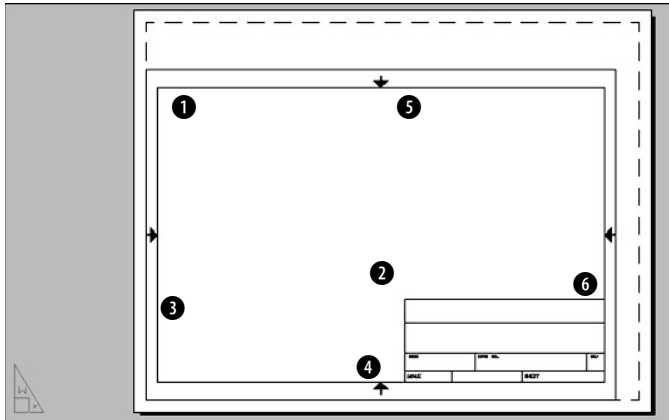

**Figure 17-13:** The title block inserted into paper space.
10. Choose Insert ⇄ Block to open the Insert dialog box. Click Browse. Choose `ab17-a-blk.dwg` from the CD-ROM and click Open. Uncheck any checked Specify On-Screen check boxes. Click OK to insert the title block, as shown in Figure 17-13.
12. Choose View ⇄ Viewports ⇄ 1 Viewport. (Turn OSNAP off if it's on.) At the Specify corner of viewport or [ON/OFF/Fit/Shadeplot/Lock/Object/Polygonal/Restore/2/3/4] <Fit>: prompt, choose ❶ in Figure 17-13. (In AutoCAD LT, your prompt will look slightly different.) At the Specify opposite corner: prompt, choose ❷.
13. Click the right mouse button and then choose Repeat 1 Viewport. At the prompt, choose ③ in Figure 17-13. At the next prompt, choose ④. Again, repeat the command and choose ⑤ and ⑥. You now see the drawing in the three viewports.